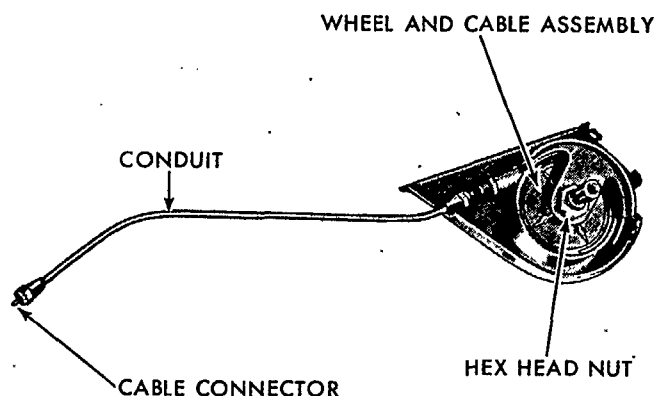

Figure 121
2. Remove the hex nut from the shaft, remove the indicator assembly, and remove the snap ring and retainer plate to expose the wheel and cable assembly, shown in Figure 121. The shaft can now be withdrawn and the wheel and cable can be removed.